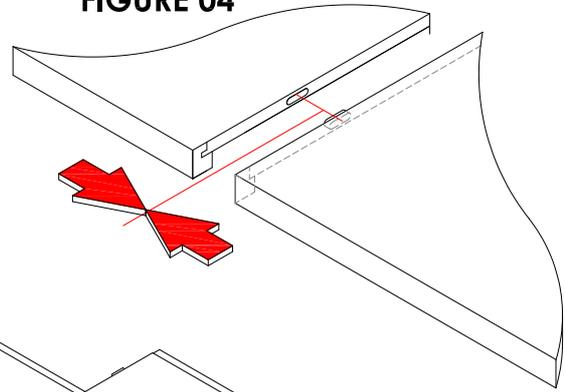

**FIGURE 03**
3. Attach the stretcher (D) into the bottom of the top by using Allen bolt (1) together with lock washer (4) and flat washer (5). See **FIGURE 03**.